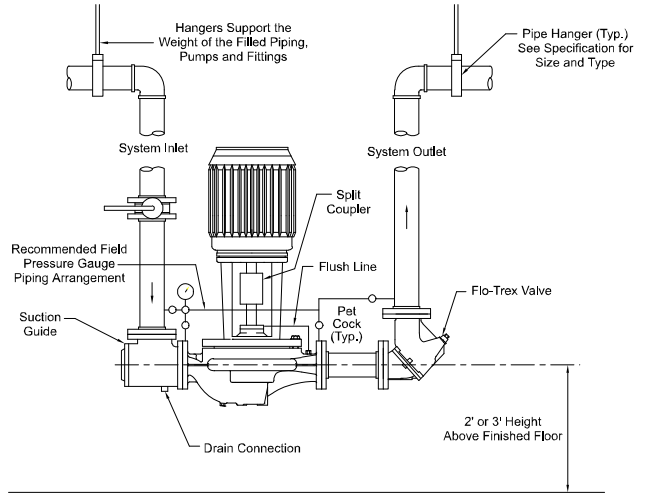
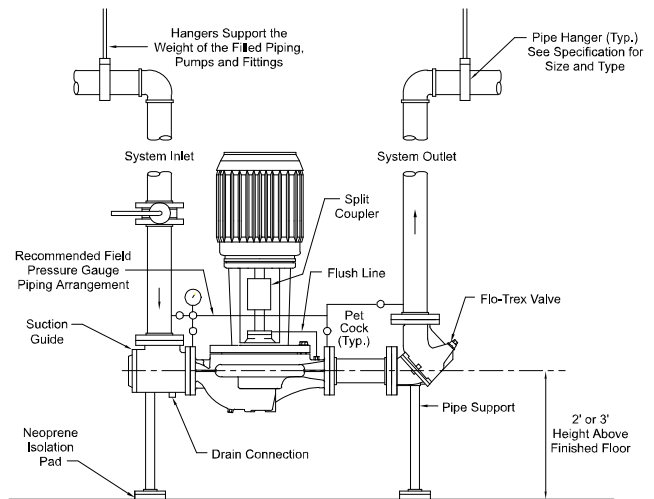

Fig. 2.2 Pipe mounted supported at ceiling
Fig. 2.4 With additional pipe supports
- 2.2 Piping in many mechanical rooms is hung close to the ceiling and larger pumps are mounted near ground level for ease of maintenance. Fig 2.2 illustrates such an arrangement with the piping supported at the ceiling and the VIL unit installed with an Armstrong Suction Guide and triple function Flo-Trex valve. Many very large VIL pumps are installed in this manner.
- 2.4 Fig 2.4 illustrates a similar arrangement to Fig 2.2 with additional floor mounted pipe-stools isolated from the structure by 'waffle' style neoprene isolation pads under the Armstrong Suction Guide and Flo-Trex Valve.